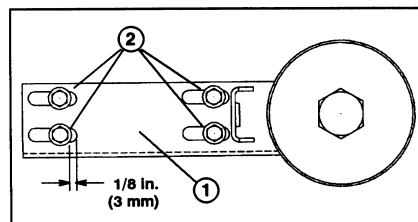
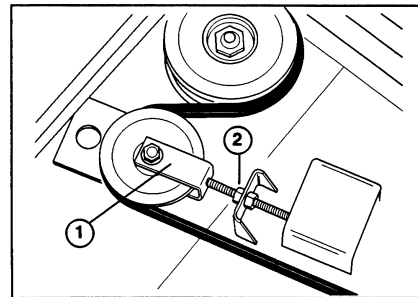

Figure 64
Figure 65
3. Note position of shoulder bolts in slots in tension plate. Optimum belt tension will be maintained when the flanges on the shoulder bolts are 1/8 in. (3 mm) from the pulley ends of the slots (Fig. 64). If the shoulder bolt flanges are more than 3/8 in. (9 mm) from the pulley end of the slots, an adjustment should be made.
4. To adjust, loosen jam nuts (Fig. 65) and extend tension arm until the shoulder bolt flanges are within 1/8 in. (3 mm) of the pulley end of the slots (Fig. 64).